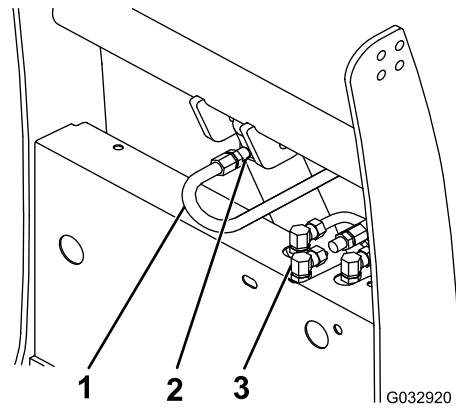

Figure 10
6. Remove the plug on the upper fitting on the lift cylinder (Figure 10).
8. Install that end of the hose to the upper fitting on the lift cylinder (Figure 10). Turn the fitting until it is finger tight, then turn it 2 to 3 more times.
9. Creating an “S” shape with the hose, connect the free end of the hydraulic hose to the rear fitting on the hydraulic shelf (Figure 10). Turn the fitting until it is finger tight, then turn it 2 to 3 more times.